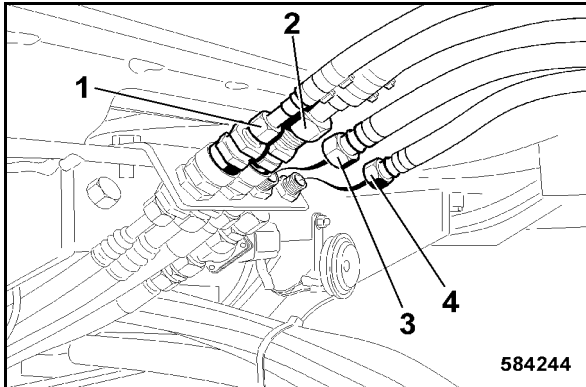

Fig. 226
- Connect the feed 1 (Fig. 226) and the return flow (2) for the air conditioning system with quick release couplings.
- Connect the feed (4) and the return flow (3) of the heating. (Observe the marks on the hoses).